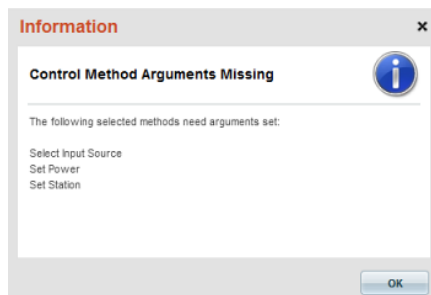

FIG. 283 Control Method Arguments Missing dialog
- Click **Finish** to save changes and close the *Control Macro Wizard*. The program will prompt you to provide arguments for control methods that have none defined (FIG. 283):